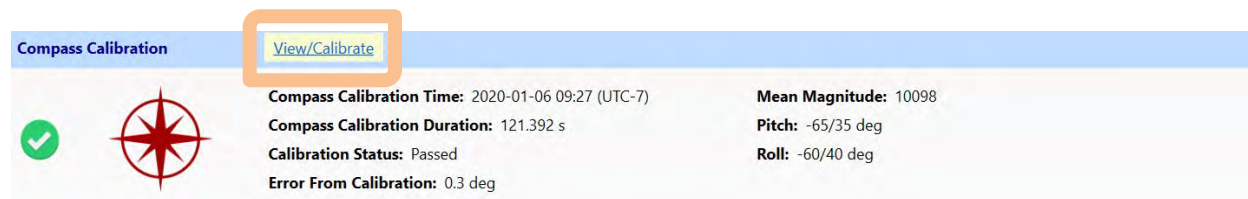
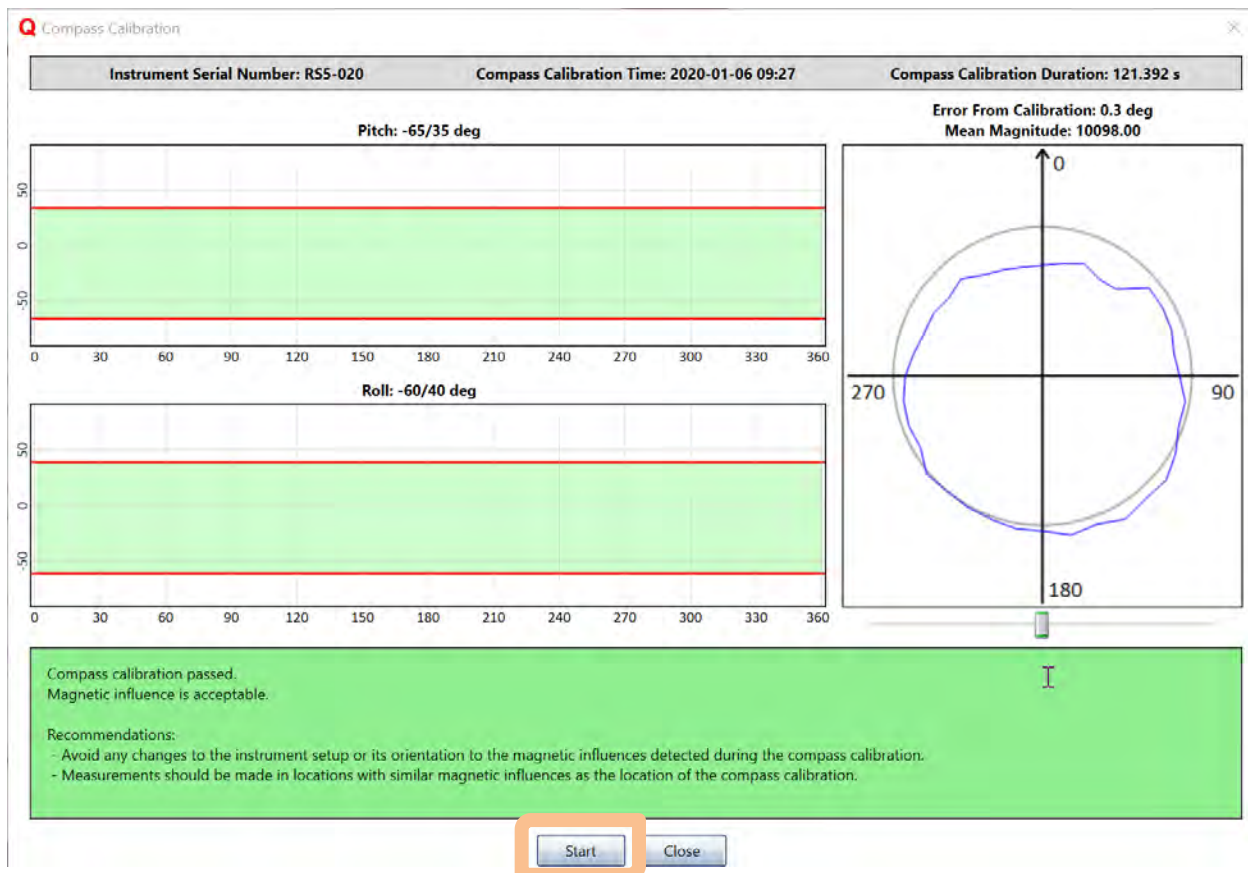
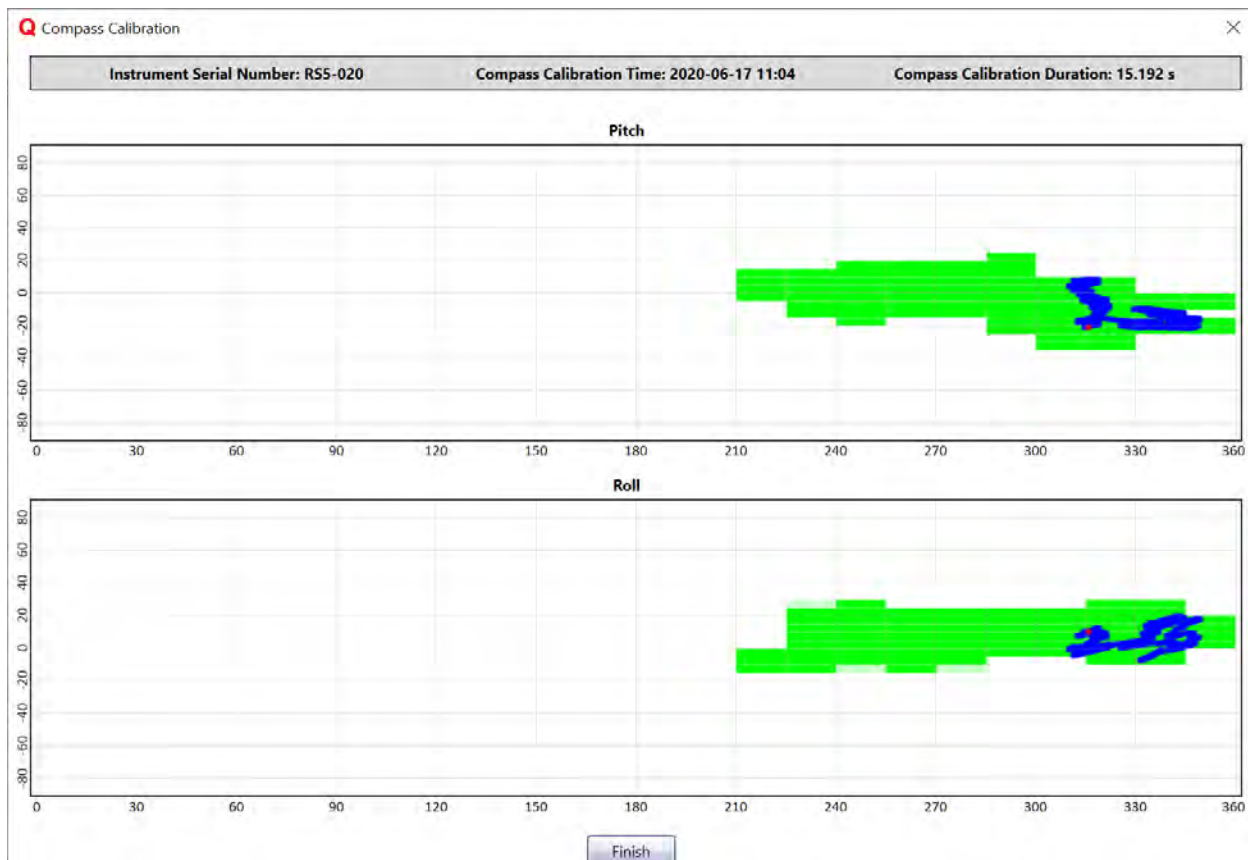
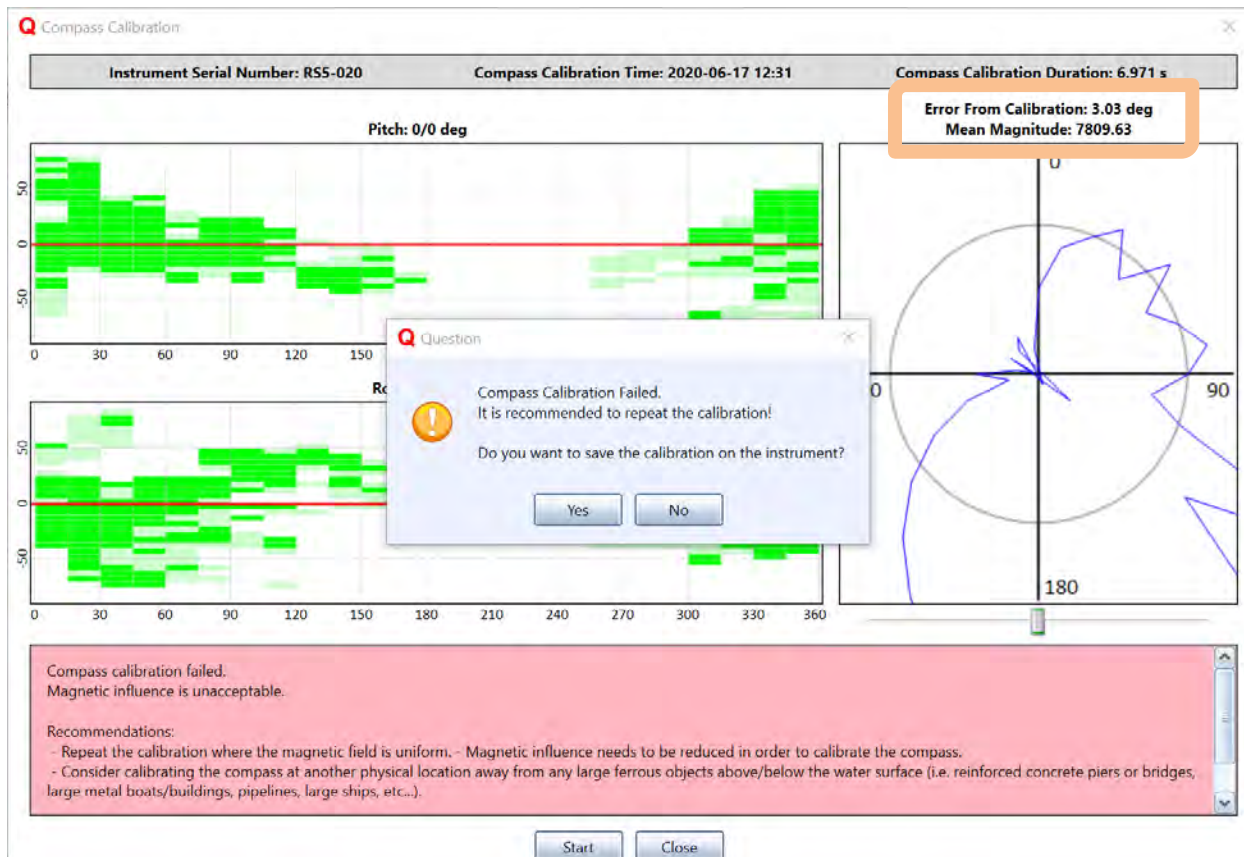

Figure 52. Compass Calibration
Figure 53. Compass Calibration Dialog
Figure 54. Compass Calibration Procedure
Figure 55. Compass Calibration Fail
To begin a Compass Calibration, click the View/Calibrate link (highlighted in Figure 52) in the Compass Calibration section of the Smart Page. The Compass Calibration dialog will appear (Figure 53). The results from the last good calibration will be displayed.
- To begin a Compass Calibration, press the Start button, highlighted in Figure 53. Once the calibration begins, the dialog will provide real-time feedback on the heading (x-axis), pitch, and roll, shown in Figure 54.
7. Once finished, the calibration results will be displayed. Figure 53 shows an example of a passed compass calibration, whereas Figure 55 shows an example of a failed compass calibration. If failed, the user has the option to choose to save the calibration to the system. Under normal circumstances, it is best to avoid saving a failed calibration to the system and to restart the calibration. Compass calibration failures can be caused by a variety of factors, and the following two parameters (both highlighted in Figure 55) can be used to diagnose the failure: